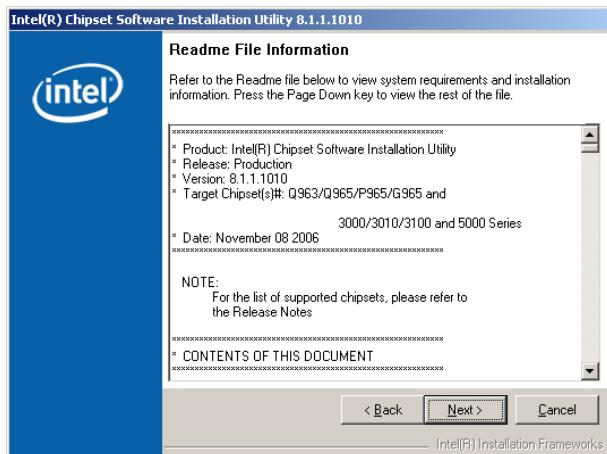

Figure 7-5: Chipset Driver Readme File Information
Step 13: The Readme file in **Figure 7-5** appears.
Step 14: Click **Next** in **Figure 7-5** to start the driver installation.